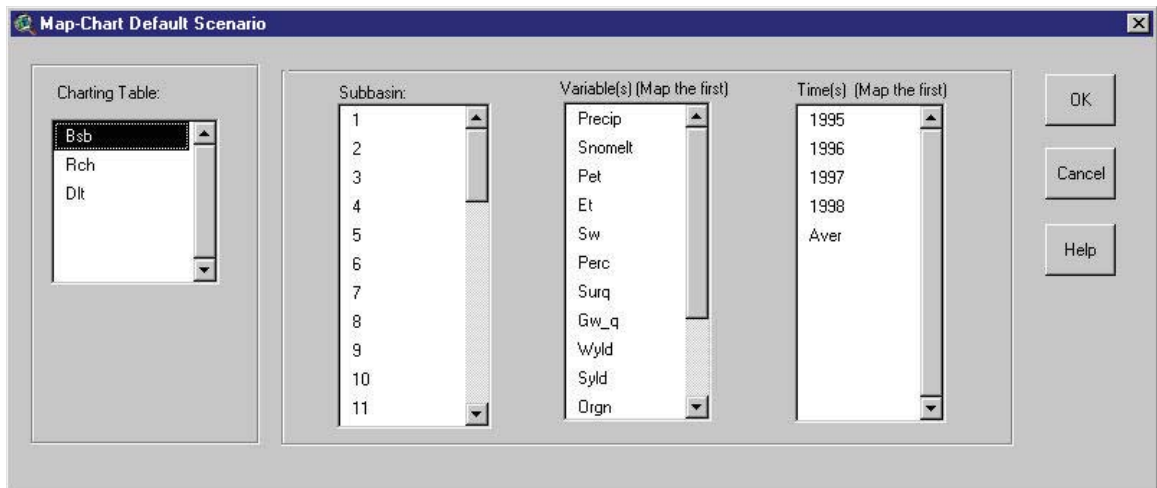

Figure 13.53
- Depending on the output file selected, the list of variables available for plotting will vary (Figures 13.53, 13.54 and 13.55).